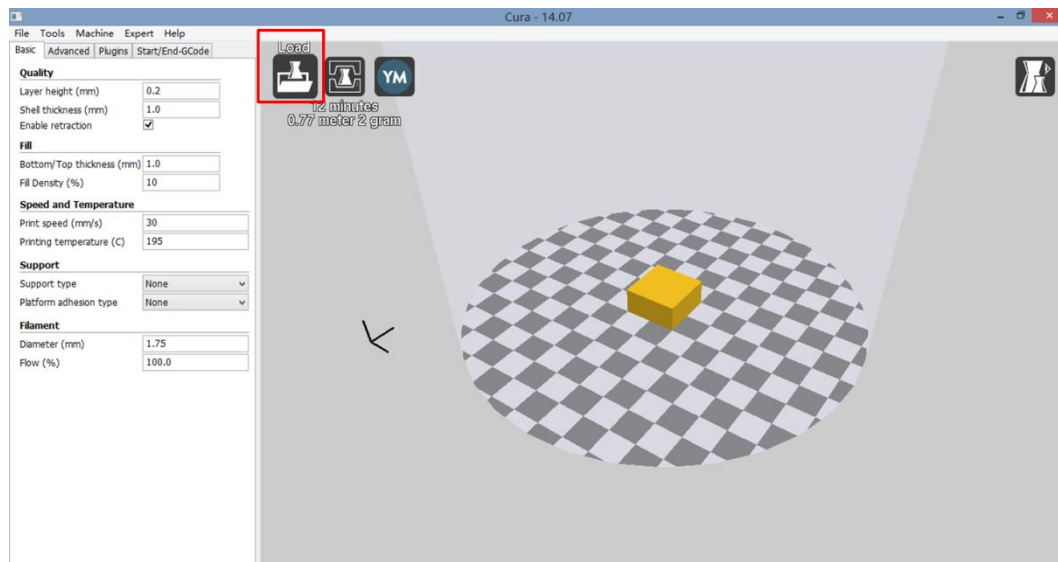

Fig. 43
Step 4. Print. To experience the very first print, please load the test model '20×20×10' and then click the 'Print with USB' icon on top, as shown in Fig. 43. In order to minimize the instability from the PC and USB port, it is suggested to save the model in Cura as Gcode file into a SD card and insert the SD card to 3D printer to print offline.